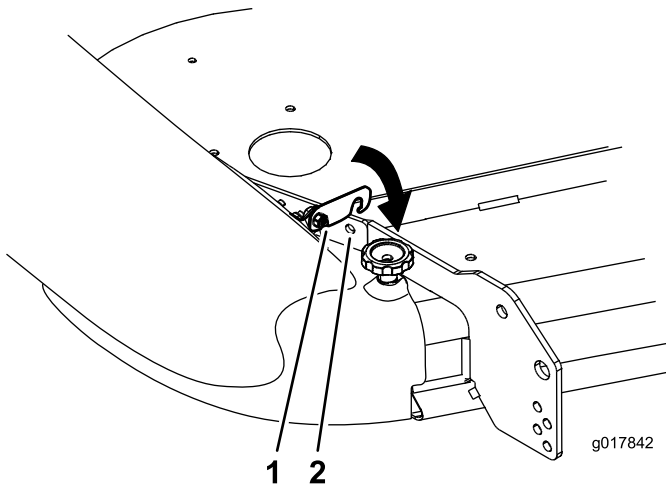

Figure 23
6. Rotate the latch until it hooks into the hole in the mower deck stiffener (Figure 23).